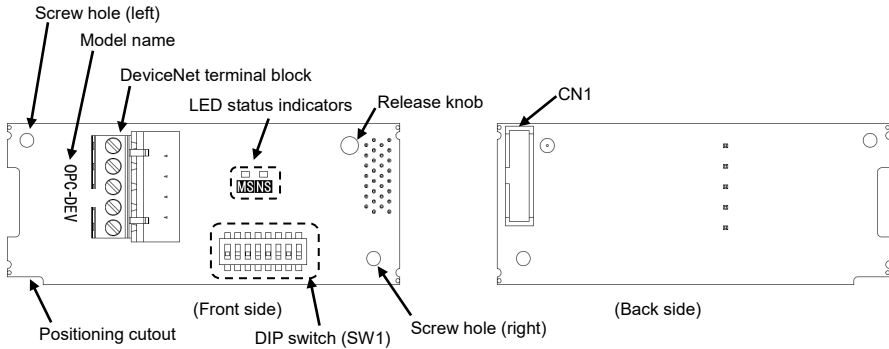

Figure 2.1 Names of Parts on DeviceNet Communications Card (OPC-DEV)
- (1) A communications card, two screws (M3 × 8), and the DeviceNet Communications Card Instruction Manual (this manual) are contained in the package.
- (2) The communications card is not damaged during transportation--no defective parts, dents or warps.
- (3) The model name "OPC-DEV" is printed on the communications card. (See Figure 2.1.)
Figure 2.1 shows the names of the parts on the DeviceNet communications card.
- (2) Insert connector CN1 on the back of the communications card (Figure 2.1) into the option connection ports on the inverter's control PCB. Then tighten the two screws that come with the card. (Figure 3.2)
Check that the positioning cutout (shown in Figure 2.1) is fitted on the tab (ⓐ in Figure 3.2) and connector CN1 is fully inserted (ⓑ in Figure 3.2). Figure 3.3 shows the communications card correctly mounted.